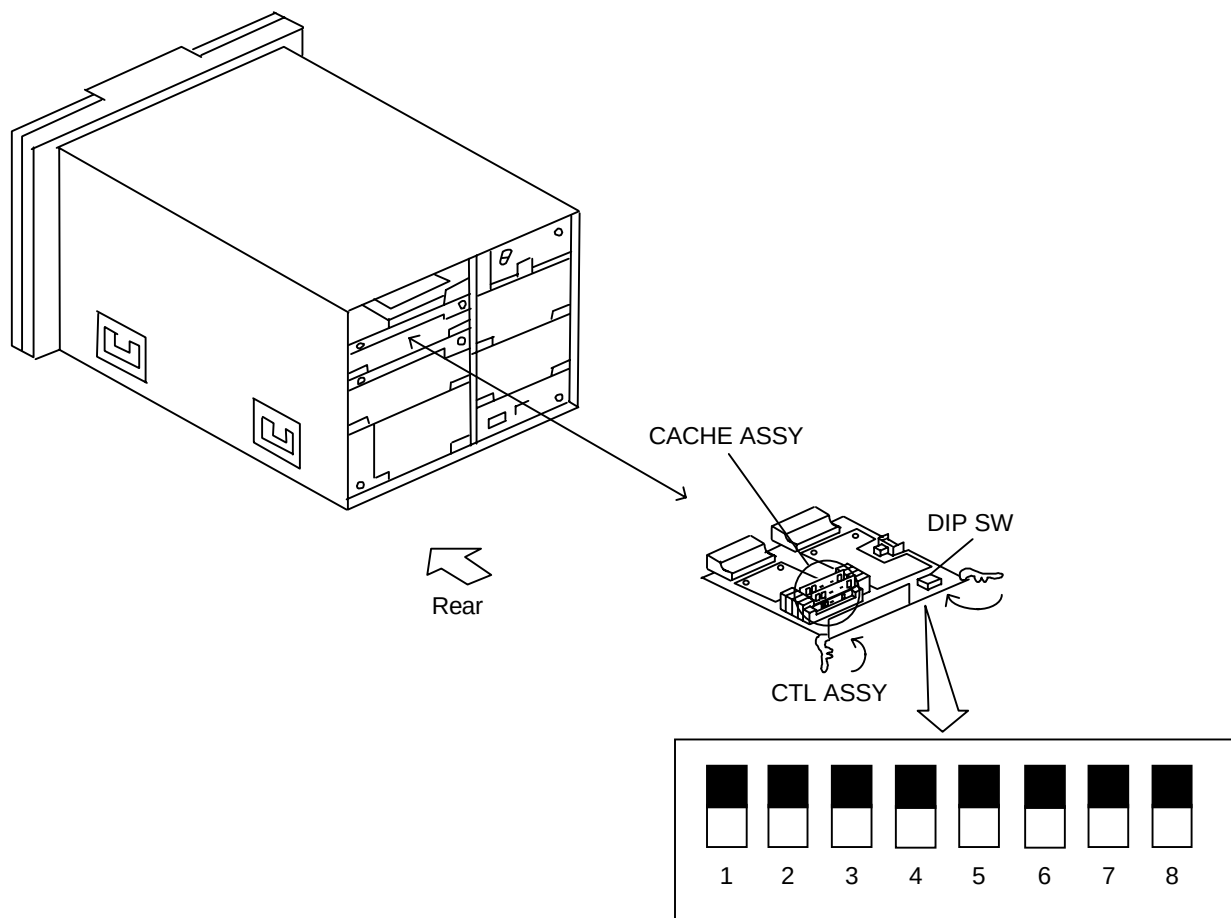

Figure 2.6.1 Installing the CTL ASSY
- (3) Remove rear cover 1 and 2.
- (4) Install a CACHE ASSY in the additional CTL ASSY. (Mount a CACHE ASSY of the same capacity in the same corresponding slot of the optional CTL ASSY as those of the already installed CTL ASSY respectively as shown on RH-OPTION0180.)
- (5) Insert the CTL ASSY in a predetermined position with the right and left levers opened. Push the right and left levers in the arrow-marked erection (→) at the same time. (See Figure 2.6.1.)
- (6) Install the additional I/F ADAPTER ASSY. (See Figure 2.6.1.) Set JP1 and JP2 on the I/F ADAPTER to the same condition as the pre-installed I/F ADAPTER ASSY.